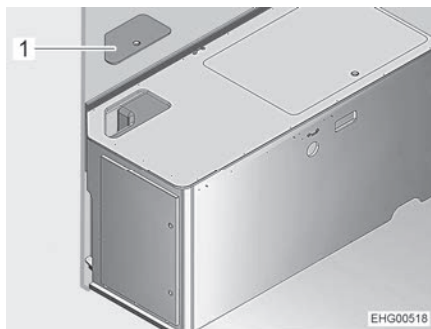

Fig. 110 Bedding box on the left
- Remove the service cover (Fig. 110,1).